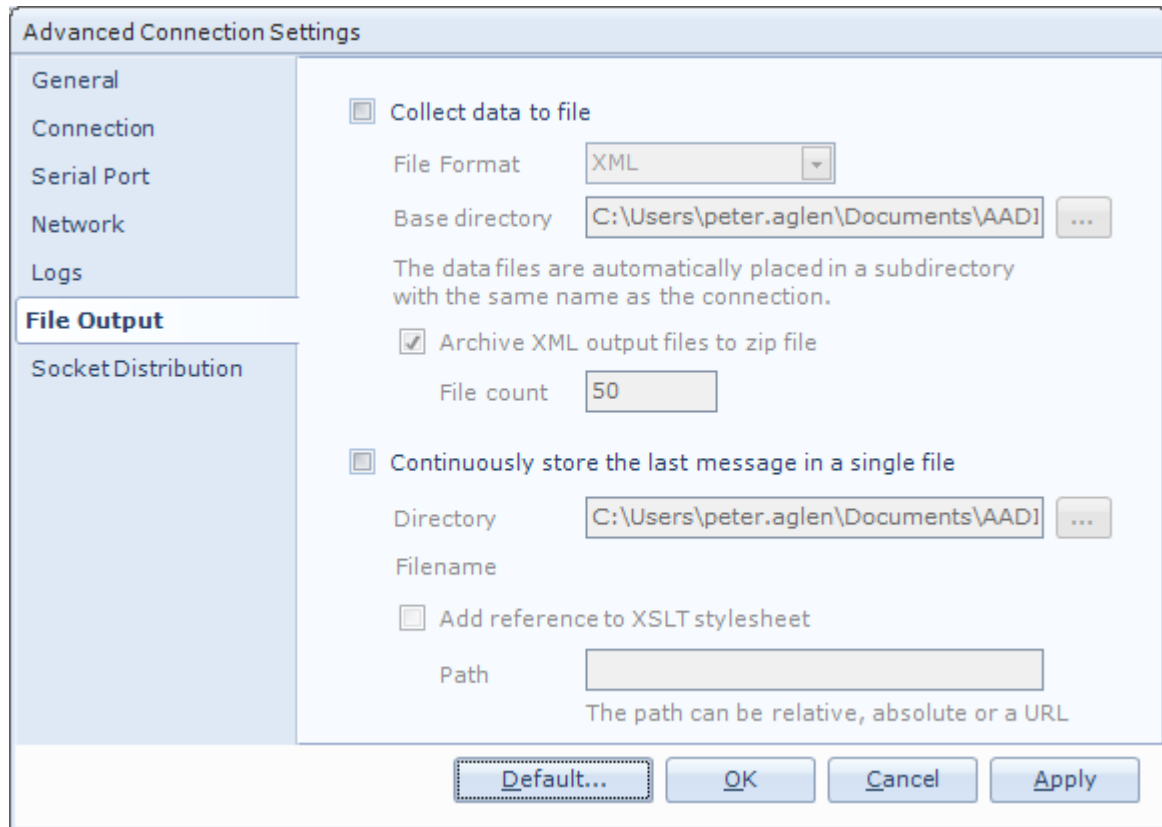

Figure 5-8 Advanced Connection Settings – the File Output tab.
- **Directory:** The directory in which to place the last message file. The file itself will always have the same name as the connection (as illustrated in Figure 5-8).